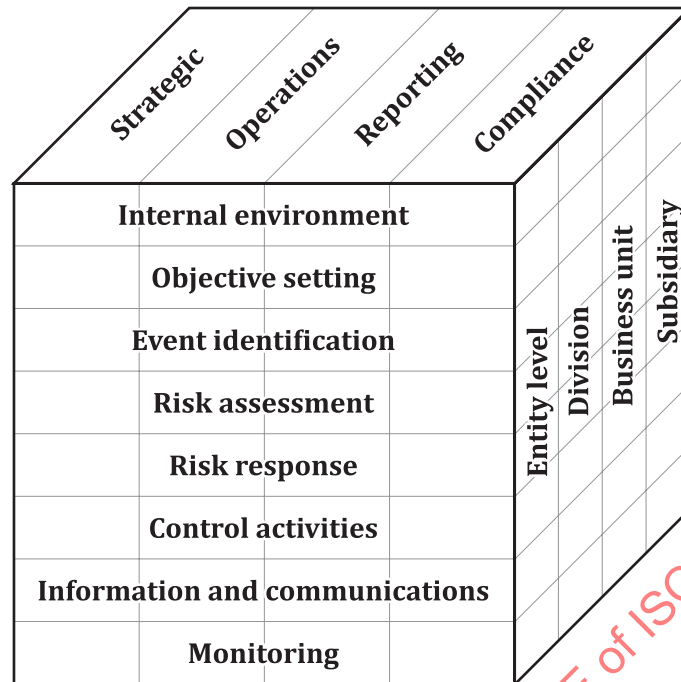

Figure 1 — COSO
- committee of sponsoring organizations framework (COSO) shown in Figure 1.